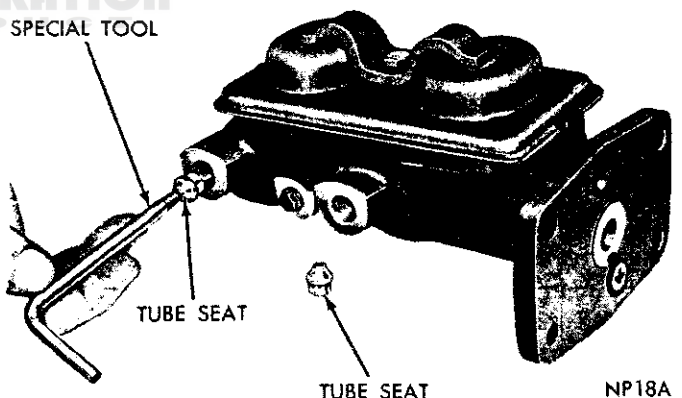

Fig. 2—Removing Tube Seats
(6) Using Tool T109-178 (or an easy out) remove tube seats by threading tool firmly into seat, tap tool and seat out of cylinder body. (Fig. 2).